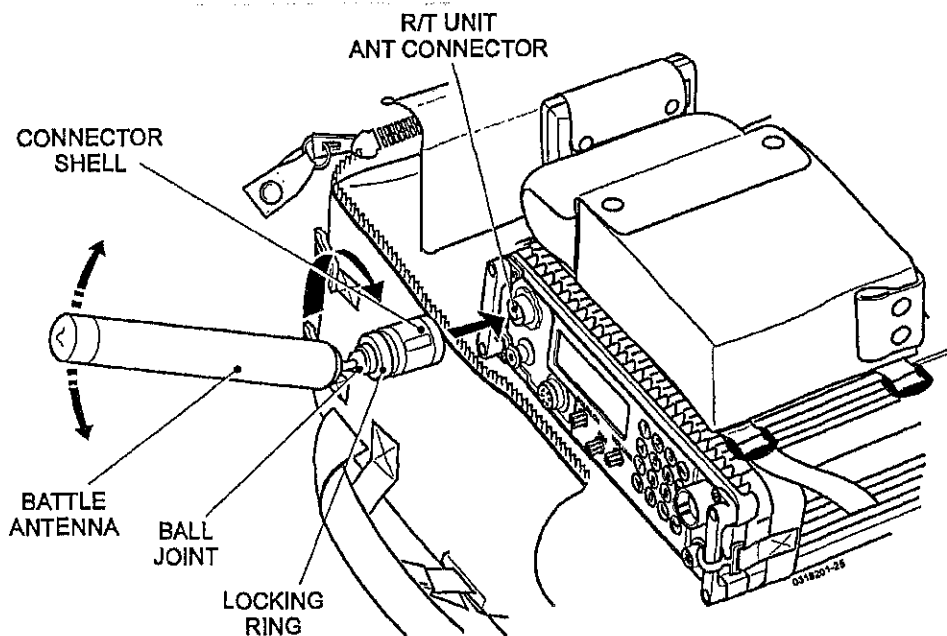

Fig 12 Manpack station - operational V/UHF battle antenna deployment
19.2 Remove the protective caps from the appropriate connectors, fit the operational V/UHF battle antenna to the R/T unit ANT connector (Fig 12) and tighten the antenna connector shell.
19.3 Align the operational antenna in the desired position and tighten the locking ring (Fig 12).